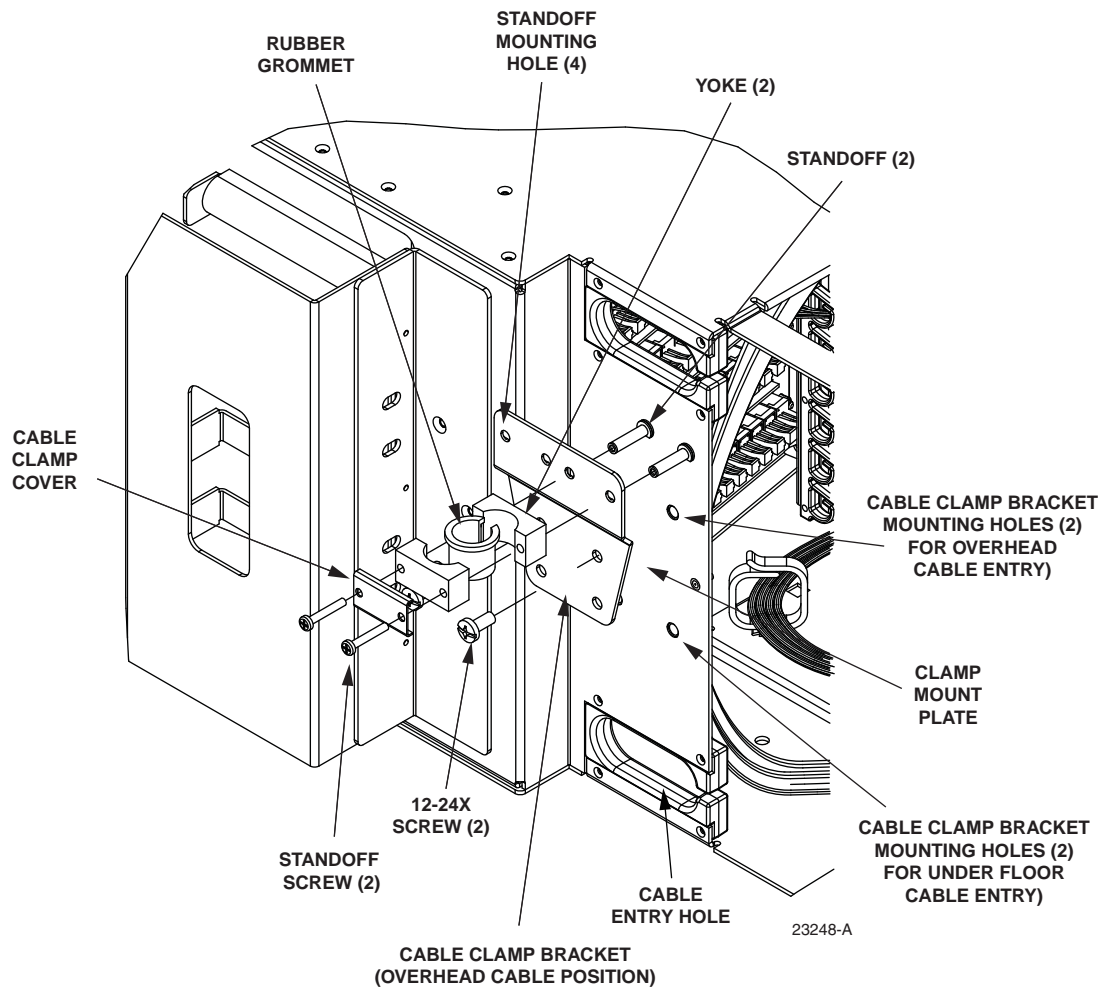

Figure 9. Installing a Cable Clamp
Every panel is shipped with two cable clamps. The clamps can be used to secure a cable to the chassis. Route the cable in from above or below the panel and secure the cable in the cable clamp at the cable breakout point. To install a cable clamp, use the following procedure. Refer to Figure 9.
► **Note:** Figure 9 shows the cable clamp bracket positioned for cable routing from above the panel. For cable routing from below the panel, turn the cable clamp bracket upside down compared to how it is shown in the figure and use the mounting holes designated in the figure as “for under floor cable entry.”
5. Working on the outside of the panel, where the cable bracket was installed, stack the cable clamp components on the standoffs, as shown in Figure 9, with the cable secured within the rubber grommet. Position the cable so that the breakout point occurs just beyond the rubber grommet.
6. Secure the cable clamp components to the standoffs using standoff screws, as shown in Figure 9.